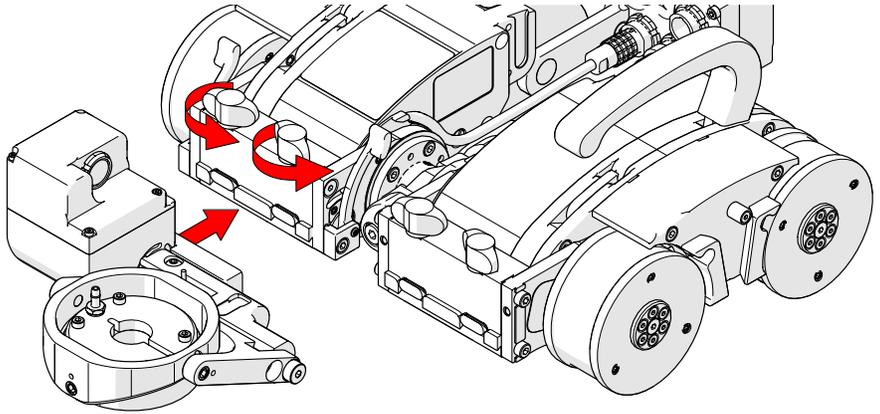

Fig. 17 - Loosen black wing knobs and mount to crawler
5. Loosen the two black wing knobs on the right drive module (Fig. 17).
6. Place the actuated probe lift's dovetail over the right drive module's dovetail jaws (Fig. 17).